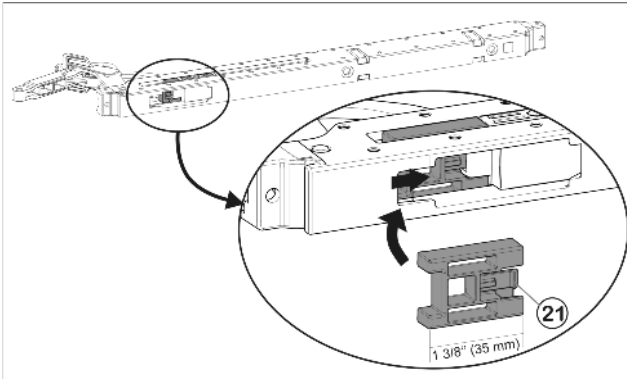

Fig. 57
- ▶ Fit opening limiter (90°) Fig. 57 (21) supplied: insert it into the soft stop mechanism from the side and push in until it audibly snaps into place.